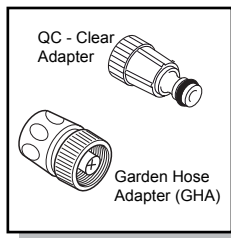

Fig. 11
- Install the garden hose adapter (GHA) and quick connect filter. It is made up of two separate pieces. (1) A clear plastic adapter with a screen filter (about 3 inches long) and (2) a blue/black collar attachment (Fig.11).